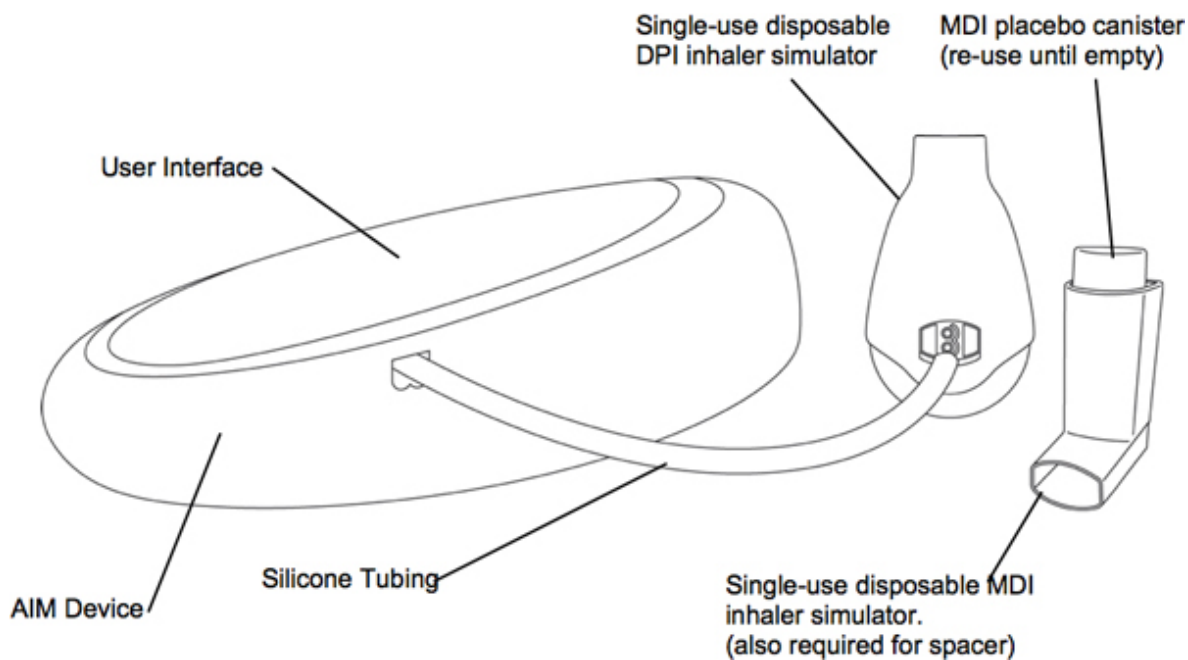

Figure 1: Components of the AIM
The main components for the Vitalograph AIM are shown in Figures 1 and 2.
2. Attach the dual silicone tubing (see Figure 1), to the port on the side of the AIM.